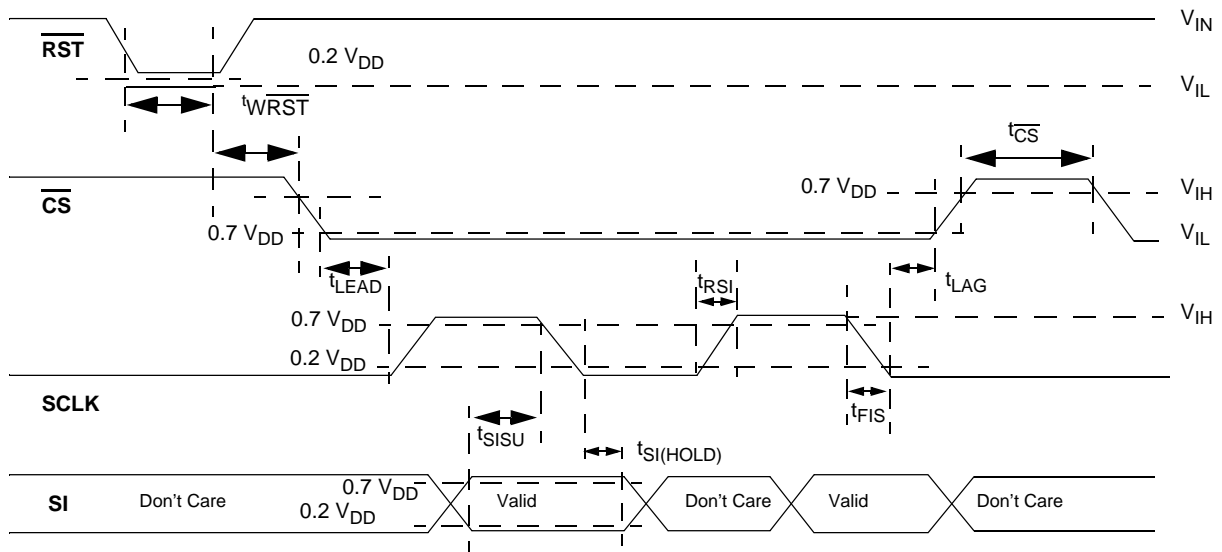

Figure 4. Input Timing Switching Characteristics
17. The 33977 shall meet all SPI interface timing requirements specified in the SPI Interface Timing section of this table, over the specified temperature range. Digital interface timing is based on a symmetrical 50 percent duty cycle SCLK Clock Period of 33 ns. The device shall be fully functional for slower clock speeds. Reference Figure 4 and 5.